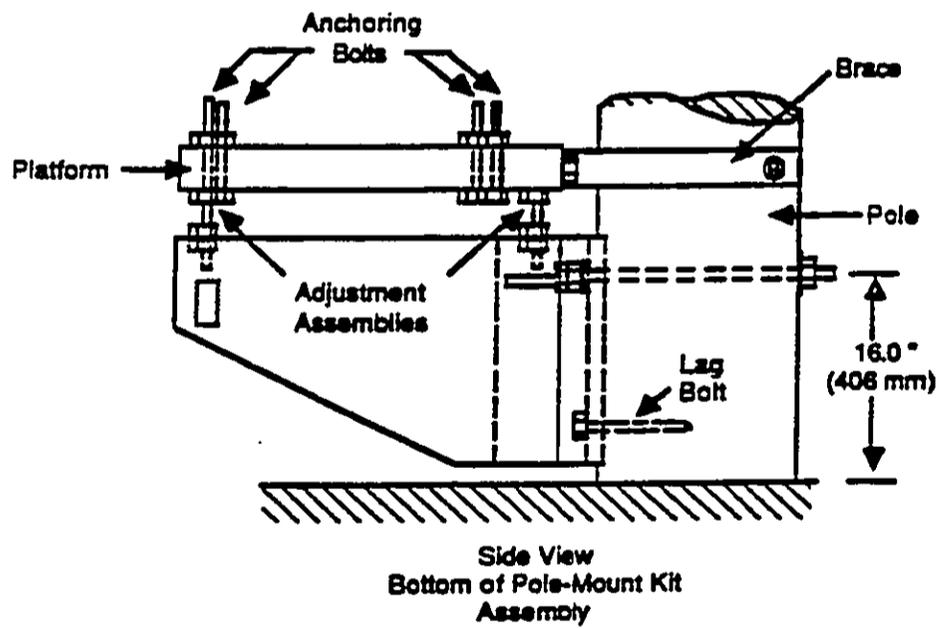

Fig. 2-8
- 3 Install a lag bolt through the bottom rear of the assembly and into the pole to keep the assembly from moving (see Fig. 2-8).
- 5 Level the platform of the pole mount assembly by tightening the adjustment assemblies (see Fig. 2-8).